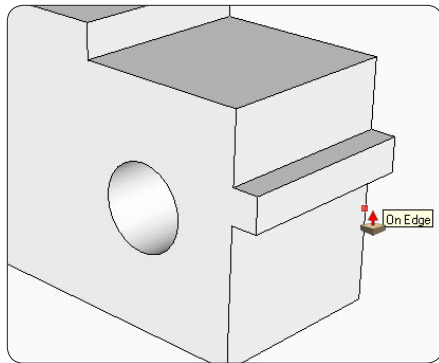

Figure 15. Using the Push/Pull Tool to create the hole. The “On Edge” label next to the tool tells you when you’ve pushed far enough.
Step 12 Select the Push/Pull Tool. Click on the face of the circle, release the mouse button, and move the mouse so that the face of the circle moves to the background. Click the Push/Pull Tool on the back edge of the block. This will end the movement on the back face and create a hole that is open on both sides, as shown in Figure 15. Use the Orbit Tool to change your view so you can see through the hole.